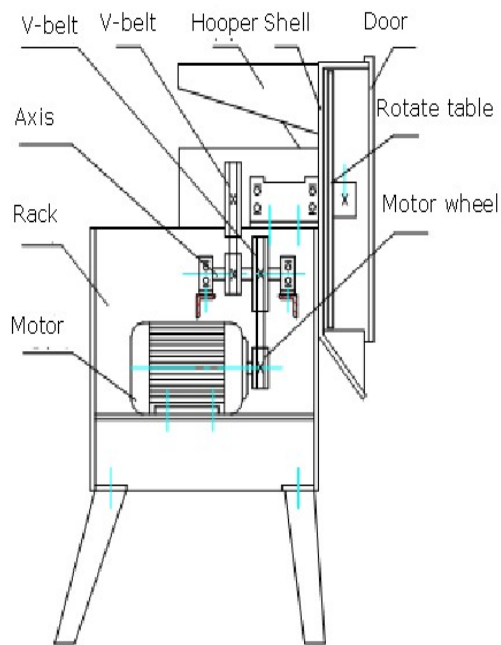

Fig. 1 Hopper type
processing smaller slices of vegetable (such as garlic flake, ginger flake and taro flake) (see Fig 1).
5.4 Open the front door before working, and dial the rotary table to make sure whether there is no any cutter bump phenomenon. If this phenomenon exist, loose the fastening screw, shift the rotary table outside and tight the fastening screw. The structure in Fig. 1 has a water pipe to use for work. Regulate the volume of flushing water according to the actual situation.
6.2.1 It is shown in Fig. 1 that the cutter is installed directly on the cutter head. The thickness of vegetables is determined by the thickness of the cutter or the gasket. Normally, there is no need to adjust.